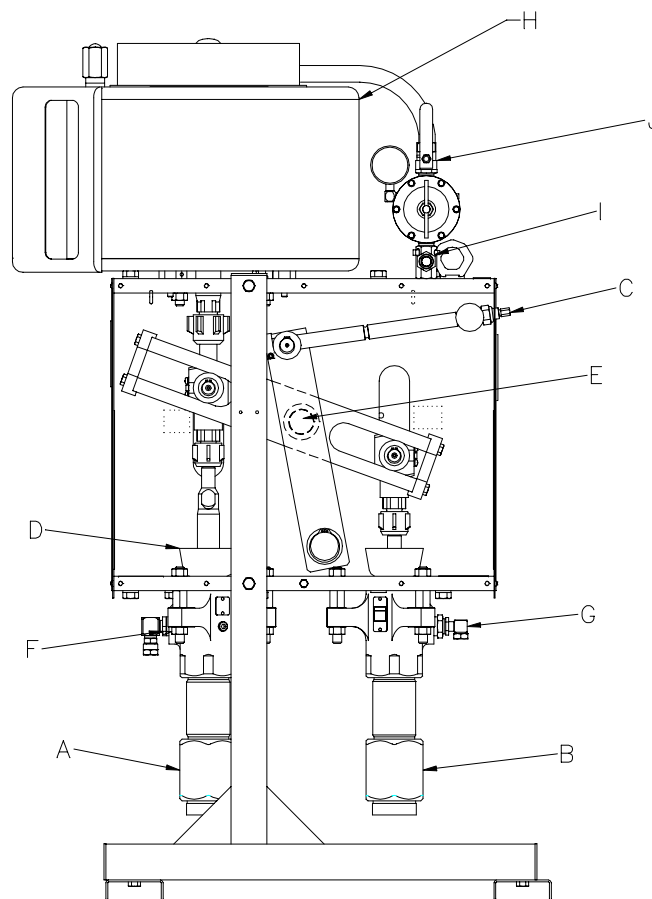

Fig. 4
The **primary pump (A)** is directly under the **air motor (H)**; it usually pumps the **base fluid**. The **secondary pump (B)** is on the opposite end of the **lever arm (E)**; it usually pumps the **catalyst**. The ratio of the secondary pump(s) can be changed by adjusting the **ratio adjustment screw (C)**. See Fig. 4.